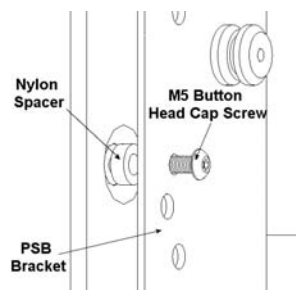

Figure 4
2. Place nylon spacers over the mounting holes as shown in Figures 4 & 5 then align hole pattern on brackets with pattern on back of Plasma Display. Attach using the M5 x 16mm cap screws (See Figures 4 & 5).